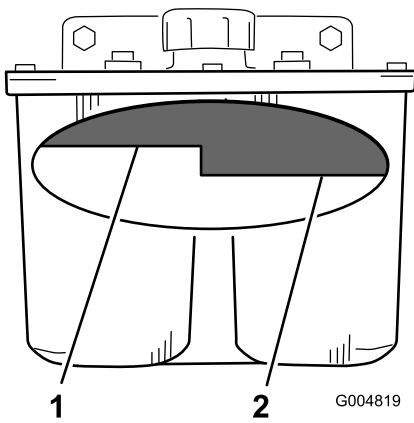

Figure 75
- Clean the area around filler neck of hydraulic tank (Figure 75).
- Remove the cap from the filler neck. Look inside to check if there is fluid in the reservoir (Figure 75).
Note: The fluid level should be to the top of the hot level of the baffle, when the fluid is hot (Figure 75).